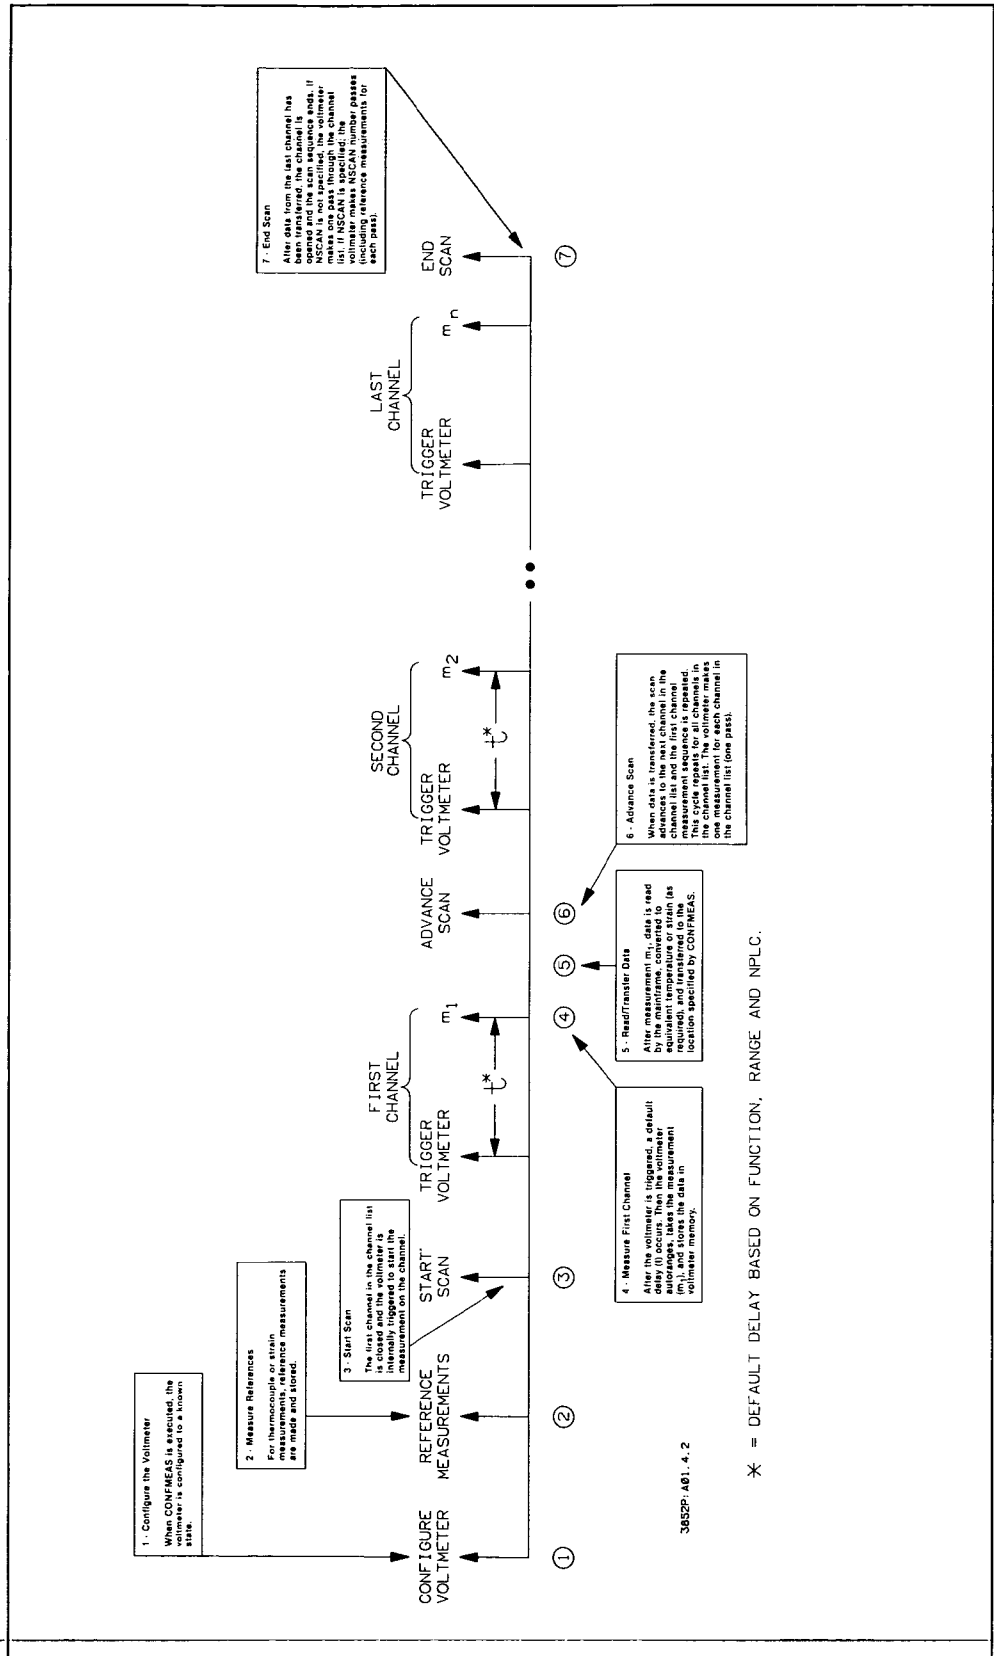

Figure 4-2. CONFMEAS Operation
Figure 4-2 is a simplified version of voltmeter operation for CONFMEAS. When CONFMEAS is executed the voltmeter is configured (1), any required thermocouple or strain references are measured (2), and the scan sequence is started (3).